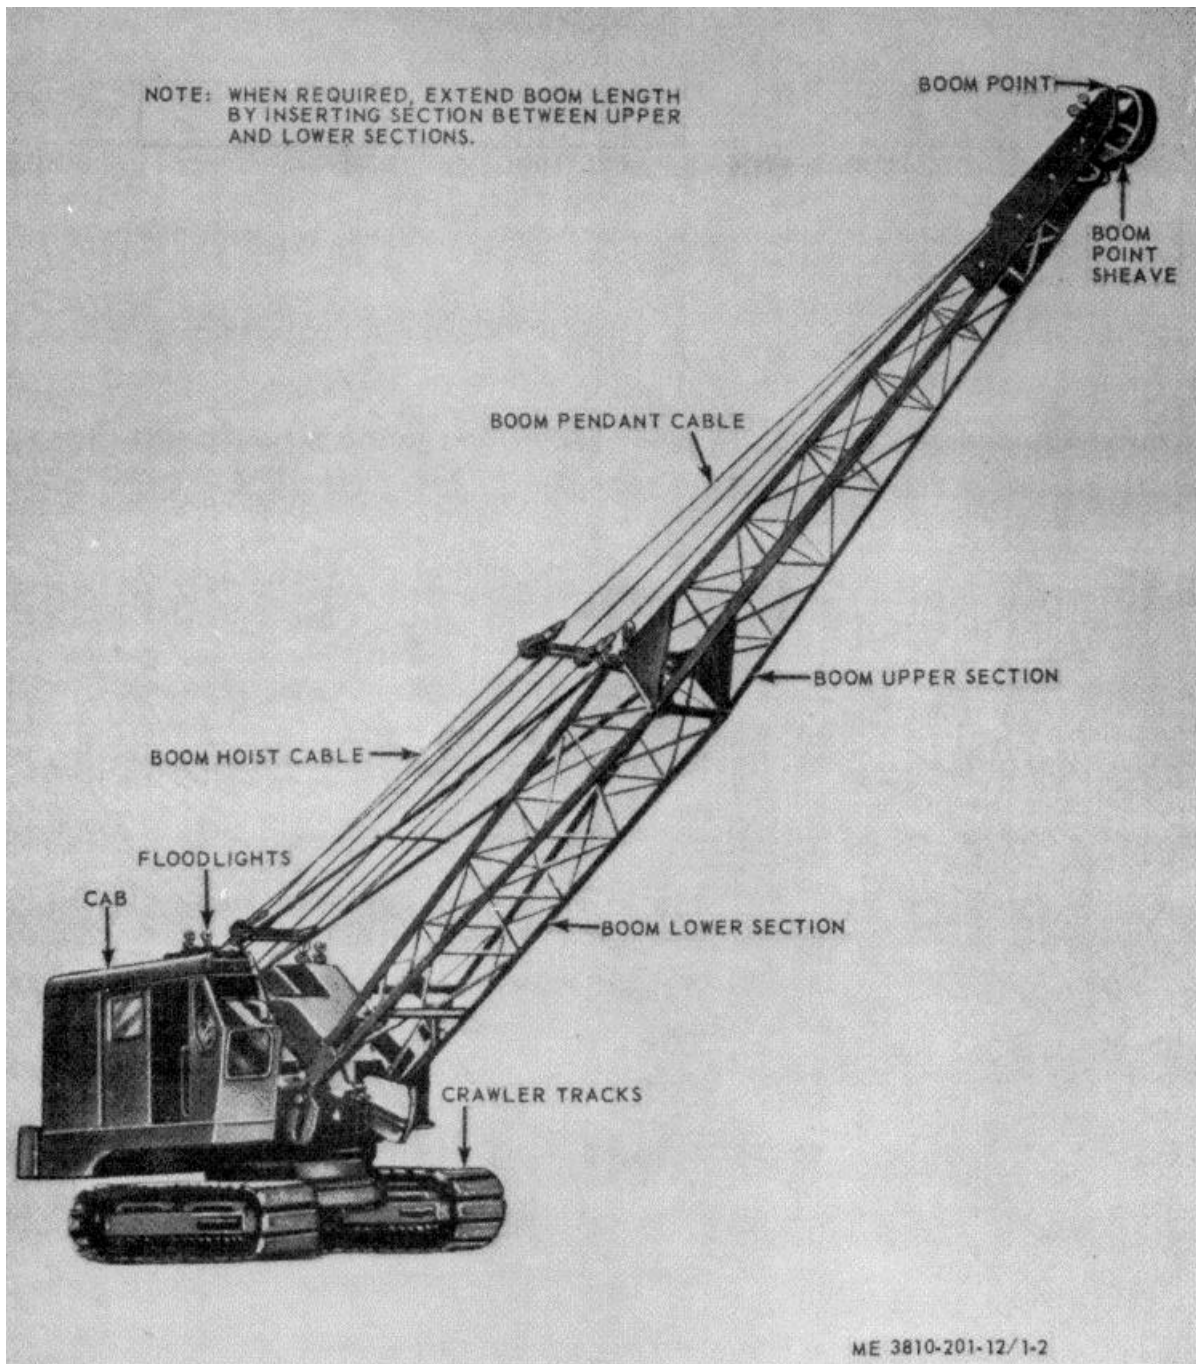

Figure 1-2. Crane-shovel basic unit, non winterized, with crane boom installed.
d. *Crawler Mounting.* Crawler mounting (fig. 1-2) consists of two crawler tracks and the carbody. Each crawler track consists of forged steel side bars, (pinned together), with track shoes bolted on. Tracks are chain driven by the tread sprocket, and supported by a large idler roller and numerous track rollers. The carbody houses the propelling and steering mechanism.